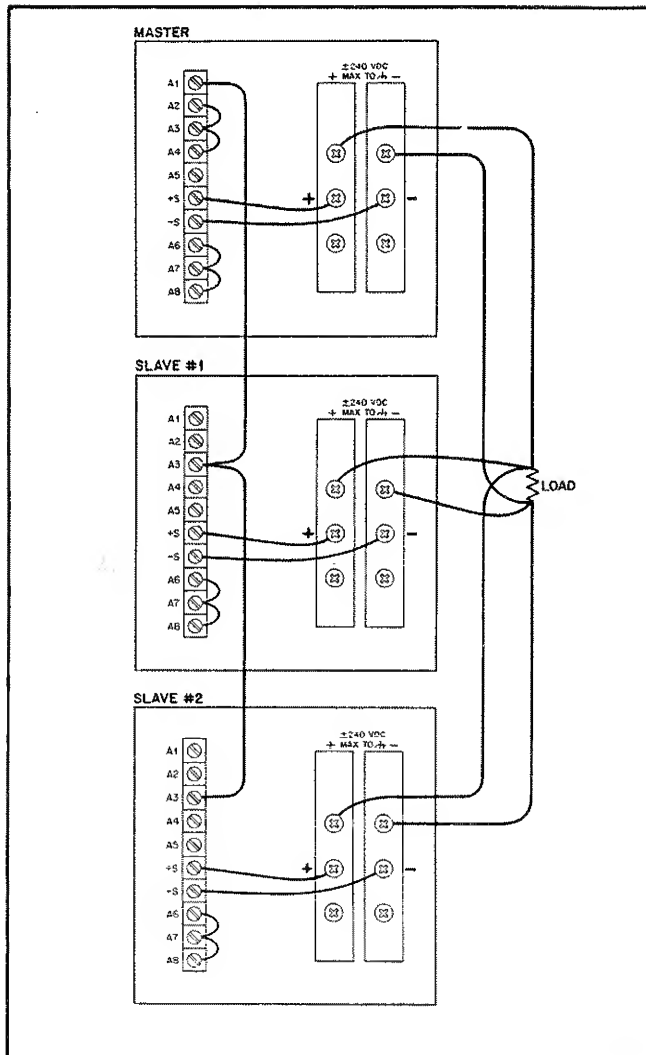

Figure 3-14. Auto-Parallel Operation
**3-62** Figure 3-14 shows the rear-panel interconnections required to auto-parallel two or more units. This mode of operation provides a greater current capability than can be obtained from a single supply, while ensuring that each supply will share the load proportionally to its own total power capability under all load conditions. For example, if a 1000W supply and a 200W supply were auto-paralleled, the 1000W supply would provide 5/6 the total current and the 200W supply would provide 1/6 the total current. The 6012A can be auto-paralleled only with other autoranging units, or with units that have current-monitoring output signals that are internally referenced to the - output and equal to +5V at maximum rated current output. Any number of supplies may be connected in auto-parallel.